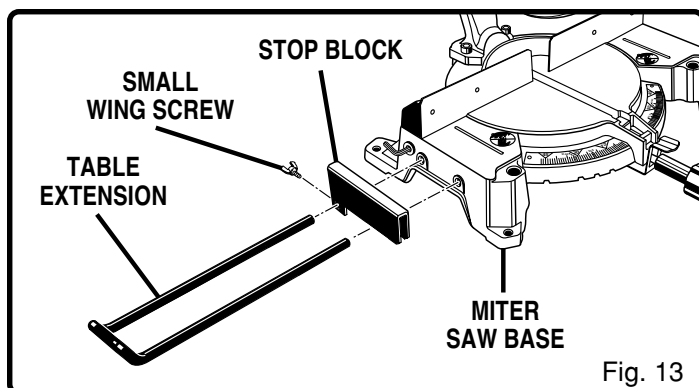

Fig. 13
See Figures 13, 14, and 15.
If you plan to use the stop block, slide the stop block on the back arm of the desired table extension first. See Figure 13.
To install table extensions, insert the ends of extensions into the holes in the sides of the base. See Figures 13 and 14. Adjust the extensions to the desired length.
See Figures 13 and 16.
- Slide the stop block on the back arm of either table extension, then insert the table extensions into the saw base. See Figure 13.
- Use the small wing screw to secure the stop block to the table extensions. See Figure 13.